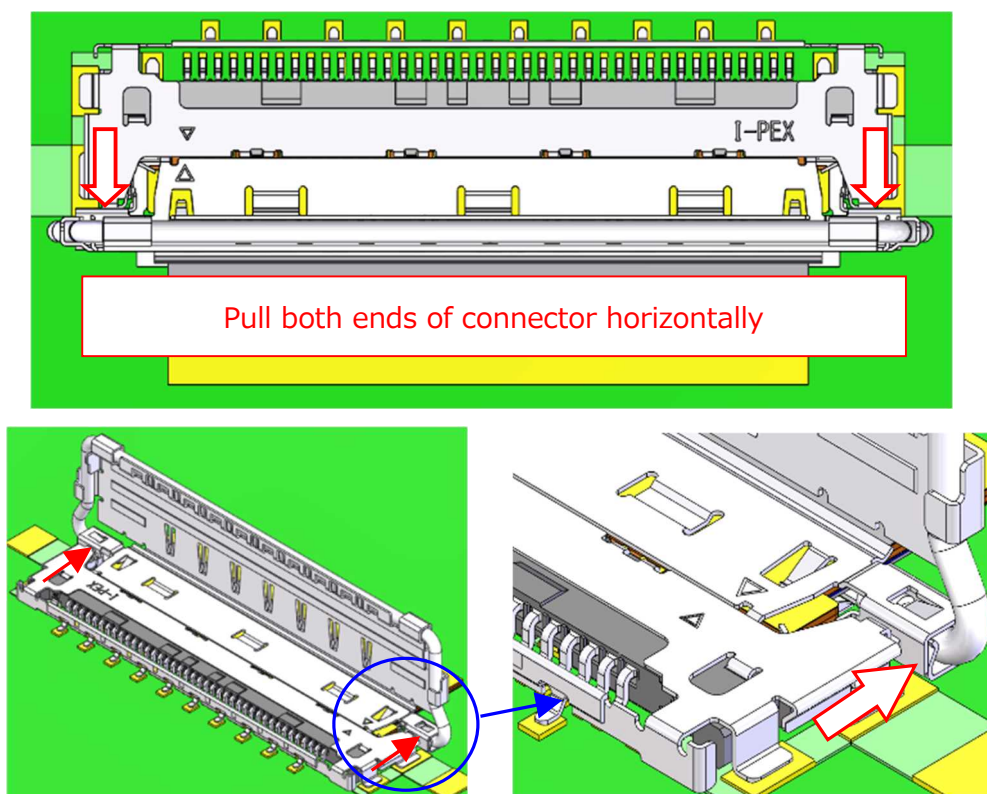

Fig. 18
②As shown in Fig.18, hold both ends of the Plug connector and withdrawal it parallel.